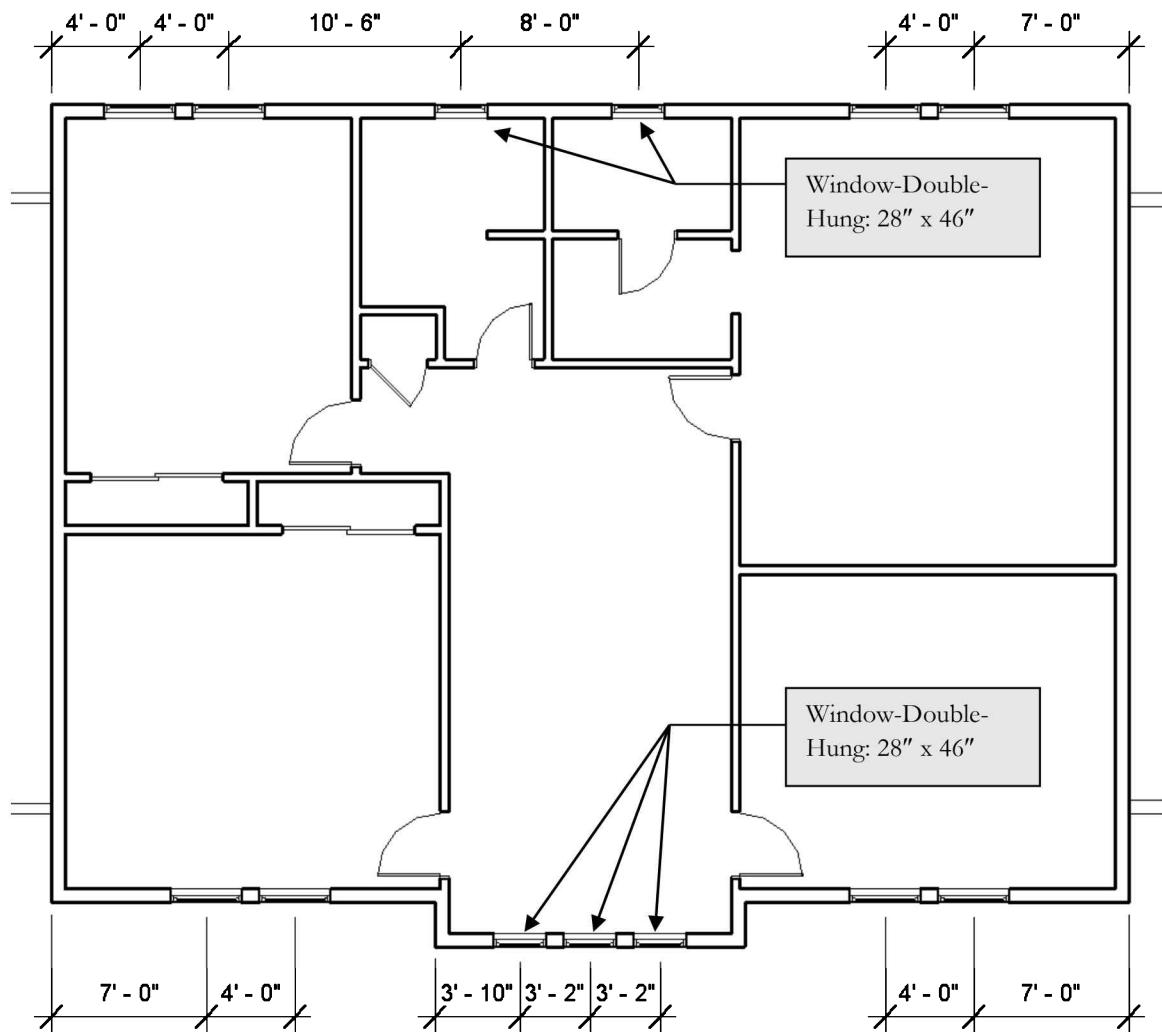

FIGURE 6-3.2 Second floor plan: windows added
4. Add the windows as shown in Figure 6-3.2.
- b. All windows are **Window-Double-Hung: 38" x 46"** unless otherwise noted in Figure 6-3.2.